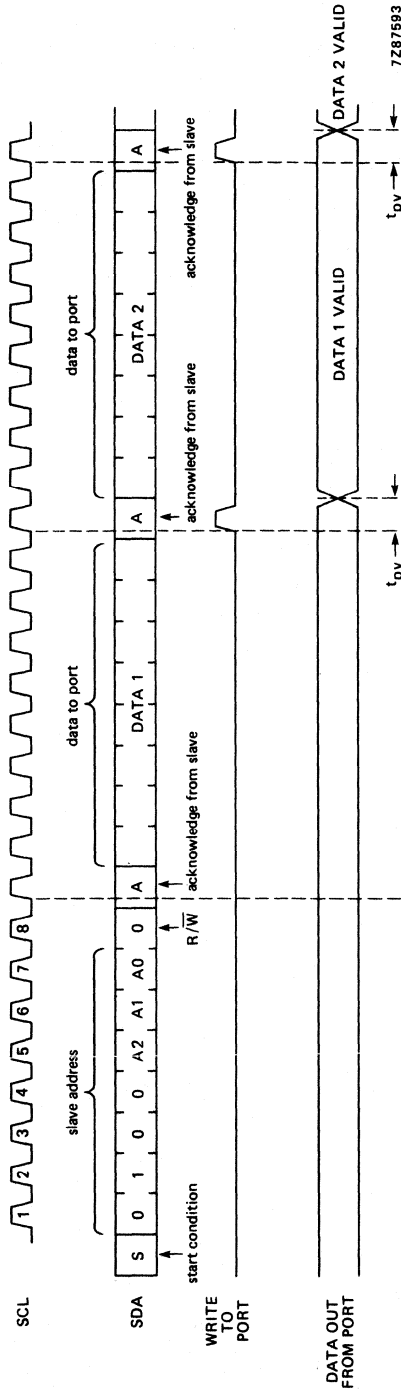

Fig. 12 WRITE mode (output port).
**Addressing** (see Figs 12 and 13)
Port timing; <math>C_L \leq 100</math> pF (see Figs 12 and 13)